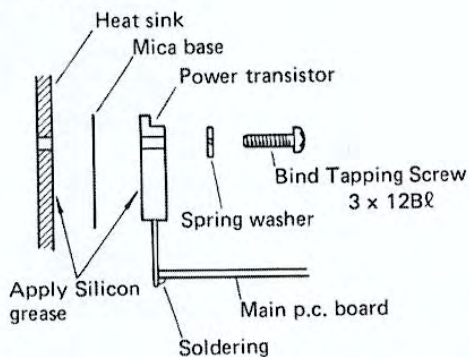
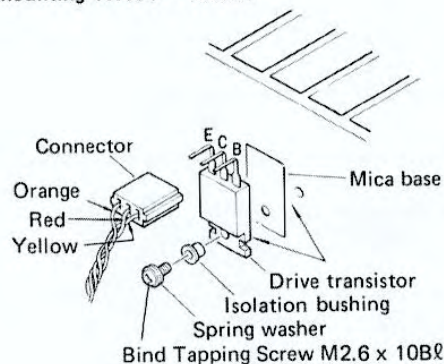

Fig. 11
Fig. 12
* When mounting the power transistors, install a mica base between the heat sink and transistors so that the heat sink will not touch the case of the power transistor. Apply silicon grease to both sides of the mica base so that heat coupling between power transistors and the heat sink will be efficient. (Fig. 11).
- f. Replace the drive transistors as shown in Fig. 11. Use the isolation bushing as shown in Fig. 12 when mounting drive transistors.
- * Be careful about the direction (B,C,E) of the connector. (Fig. 12)